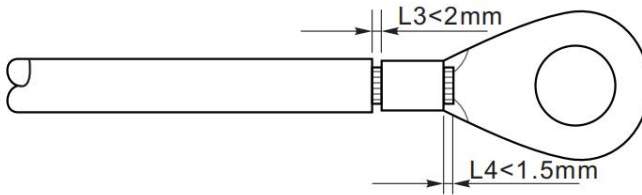

Figure 5-3 Grounding connection instruction (2)
**Step 2:** Insert the exposed core wires into the OT terminal and crimp them by using a crimping tool, as shown as figure 5.3. Recommend using OT terminal: OT M6, Cable:  $\geq 6\text{mm}^2$ .